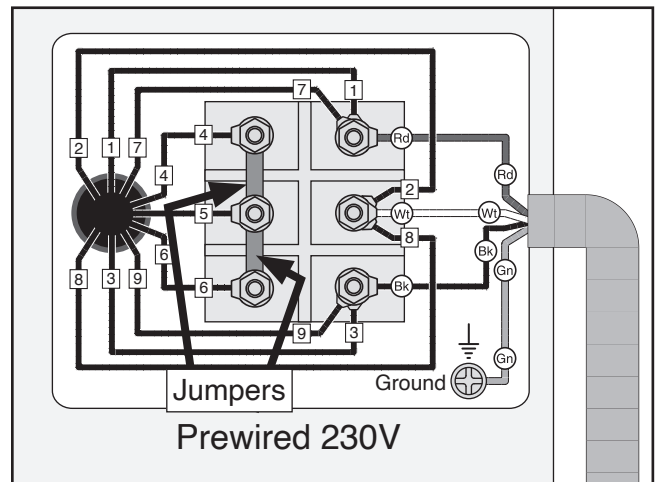

Figure 12. Motor prewired for 230V.
4. Remove (2) jumpers, and wires 7, 8, and 9 from terminals (see **Figure 12**). Jumpers will not be reused.